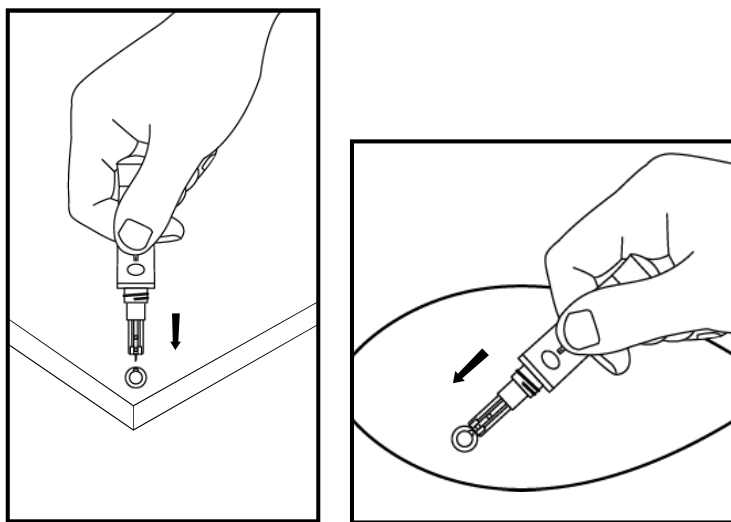

Fig. 30
Step 10: Unscrew the lancing device cover. Place the safety tab of the lancet on a hard surface and carefully insert the lancet needle into the safety tab. Press the release button to make sure that the lancet is in the extended position. Slide the ejection button forward to eject the used lancet. Place the lancing device cover back on the lancing device. (Ref Fig. 30)